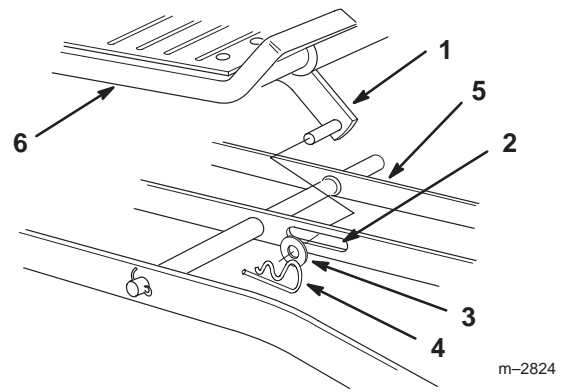

Figure 4
6. Slide the mower under the tractor from the right side and slide the attachment lift between the center and left side level bar (Fig. 4).
8. Place the attachment lift pin into the slot in the center level bar and secure it with a washer (3/4 inch) and a hairpin cotter pin (Fig. 4).